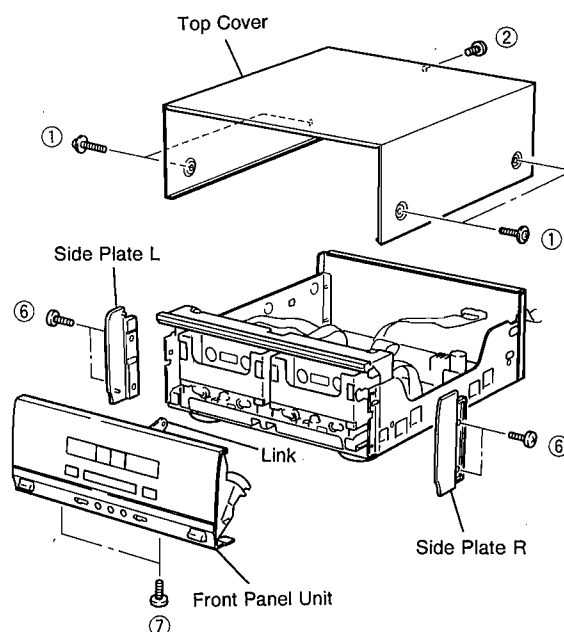

Fig. 1
- Remove 4 screws (⑥) and then remove the Side Plate in Fig. 1.
- Remove 2 screws (⑦) and then remove the Front Panel Unit in Fig. 1.